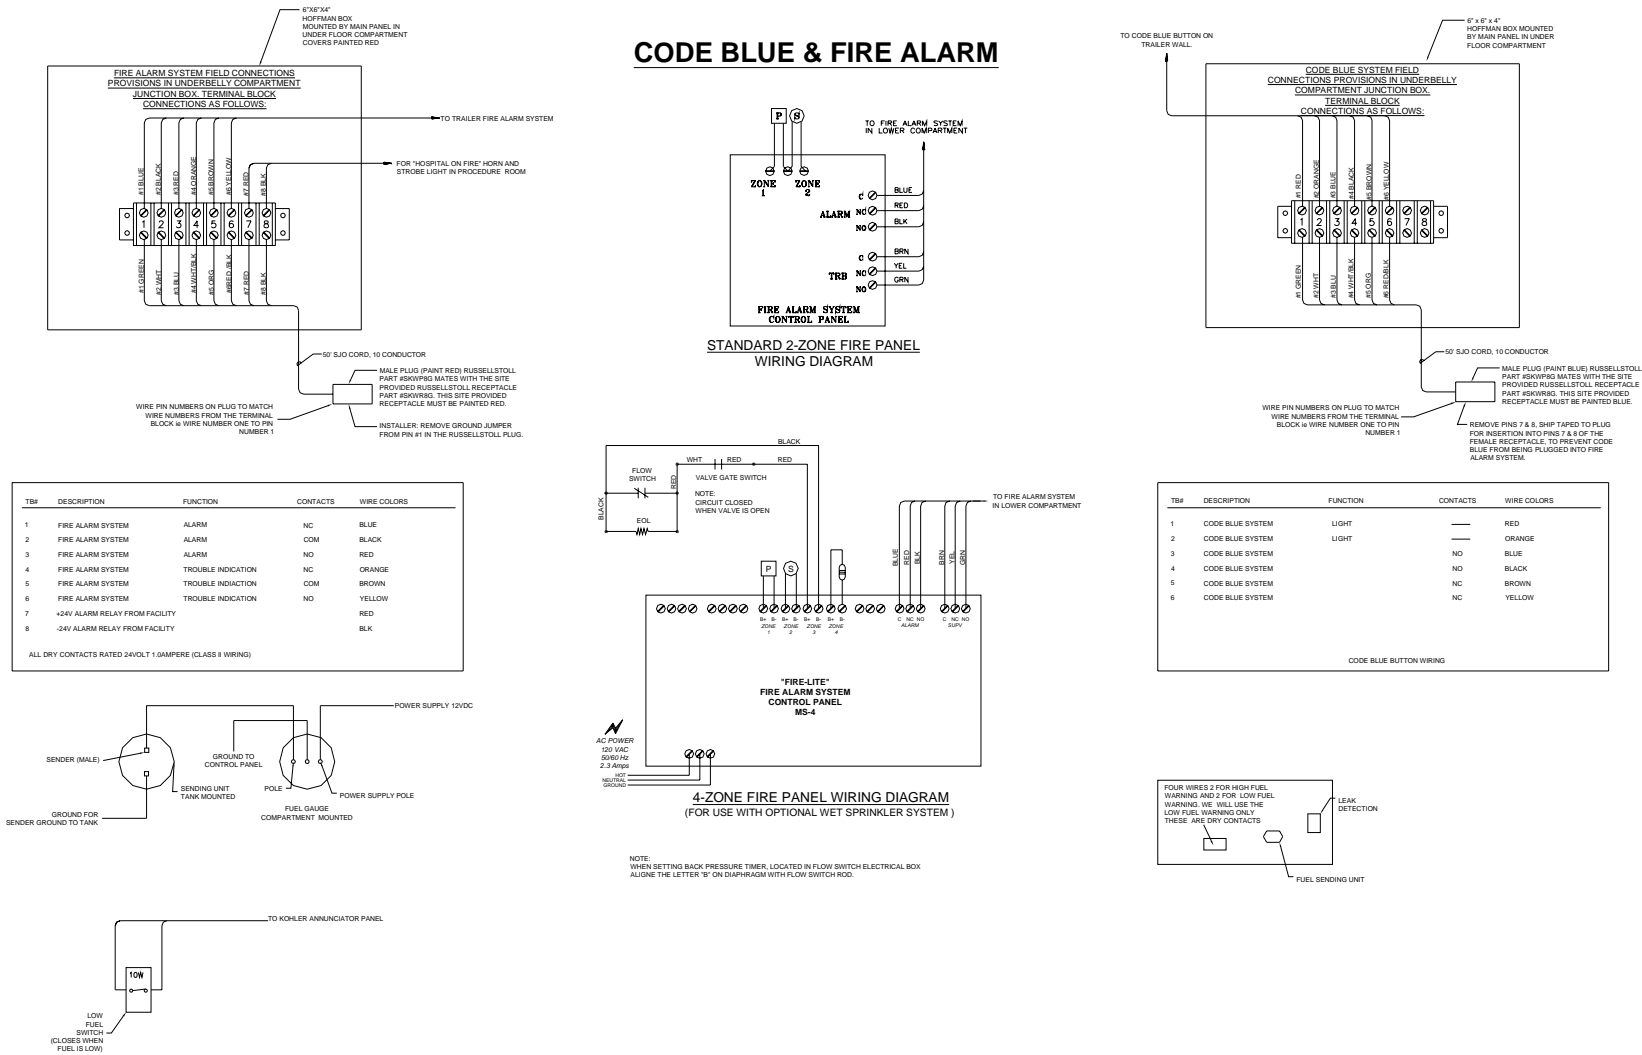

Figure 10: Code Blue and Fire Alarm Connections
- The unit is supplied with a 35' long cable and male connector for the code blue function. See Figure 10: Code Blue and Fire Alarm Connections for wiring connections.
- The unit is supplied with a 35' long cable and male connector for the fire alarm function. See Figure 10: Code Blue and Fire Alarm Connections for wiring connections.